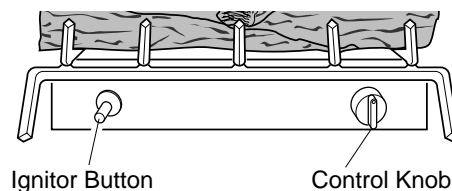

Figure 20 - Control Knob and Ignitor Button Location
4. Wait five (5) minutes to clear out any gas. Then smell for gas, including near the floor. If you smell gas, **STOP!** Follow "B" in the safety information above. If you don't smell gas, go to the next step.
5. Turn control knob counterclockwise  to the PILOT position. Press in control knob for five (5) seconds (see Figure 20).